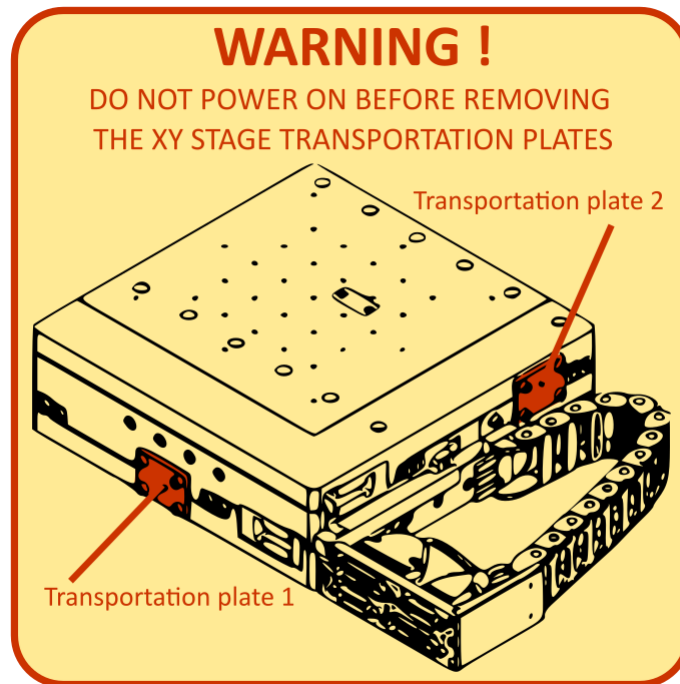

Figure 12 - Fixing flanges' location
4. Unscrew the two flanges (4 Hex M4 screws per flange) located on the right and back of the stage (Figure 12).